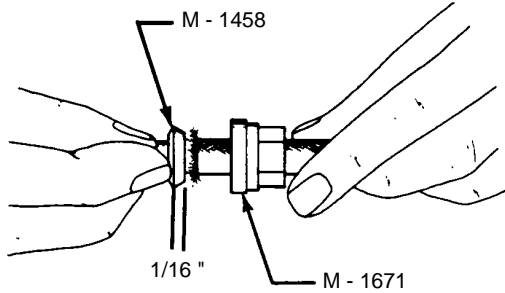

Figure 8-20 Installation
- i. On spark plug end of wire install M-1458 Male Tapered Drive Ferrule over silicone insulation and under shielding to within .062 inch from flange of ferrule. Make certain that shielding is away from ferrule flange then slide Ferrule M-1671 over the M-1458 Drive Ferrule until tight. Refer to Figure 8-20.